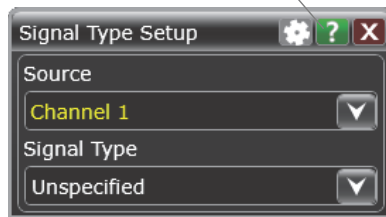

Figure 24 Help button for dialog box Help
- Click the question mark near the top right corner of a dialog box to open the help topic for that dialog box (Figure 24).